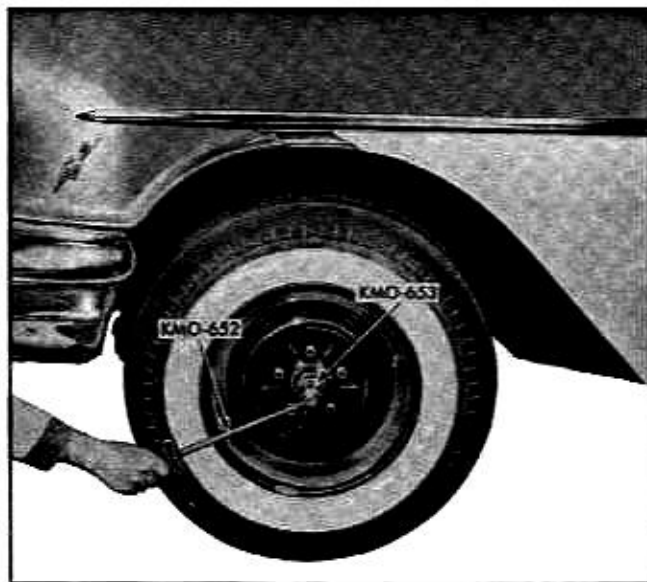

Fig. 3-11 Adjusting Wheel Bearing Using Torque Wrench
b. Back off nut and retighten to 45-50 lb. in. (Fig. 3-11). (This should be measured by using Wrench KMO-652 with Adapter KMO-653 as when measuring rear axle pinion bearing preload).